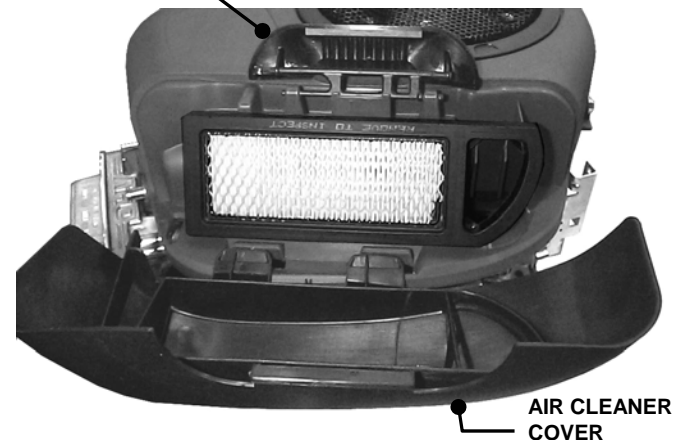

FIGURE 3.4
1. Refer to engine owner's manual for service instructions. Change air filter. Pull up and rotate the air cleaner latch to remove cleaner cover. See Figure 3.4.